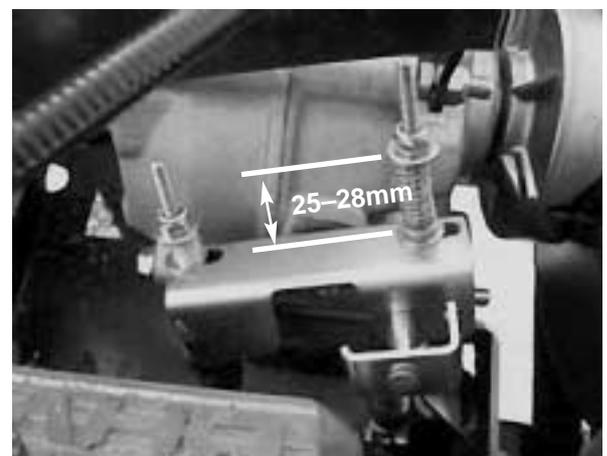

Figure 3
1. Shift the gear selector to FORWARD. Adjust the non-compressed spring height to 25–28mm (1–1/8") (Fig. 3).